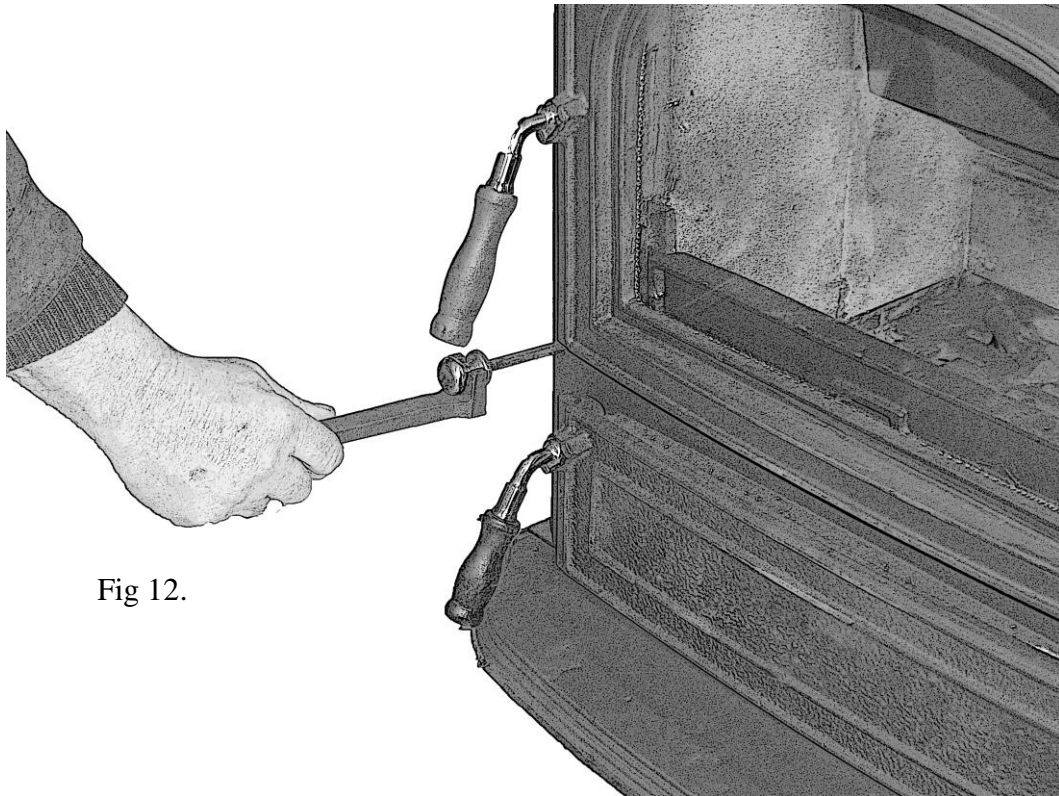

Fig 12.
- When ash builds up in the firebox shake the grate using the knob on the bottom left of the stove as shown in Fig 12. This will dispense the ash in the ash pan located under the firebox.